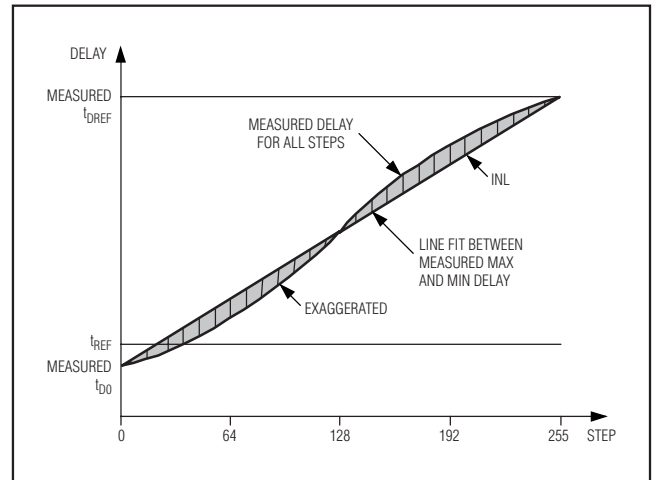

Figure 9. Integral Nonlinearity
**Note 10:** See the *Integral Nonlinearity* section and Figure 9.
IN do not benefit from the REF output's tendency to track OUT over temperature and voltage. Figure 9 shows INL's effect on delay performance graphically.